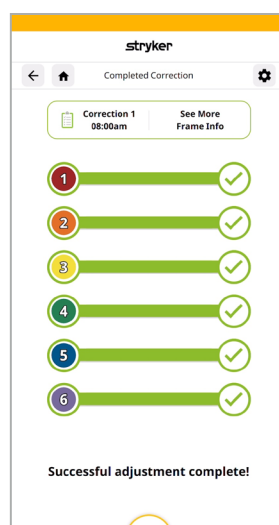

Figure 50
- The strut controllers will continue to adjust until all struts have been corrected according to the plan. Upon successful completion of the corrections, the message “Successful adjustment complete!” will display **(Figure 50)**, and the app will play a tone.